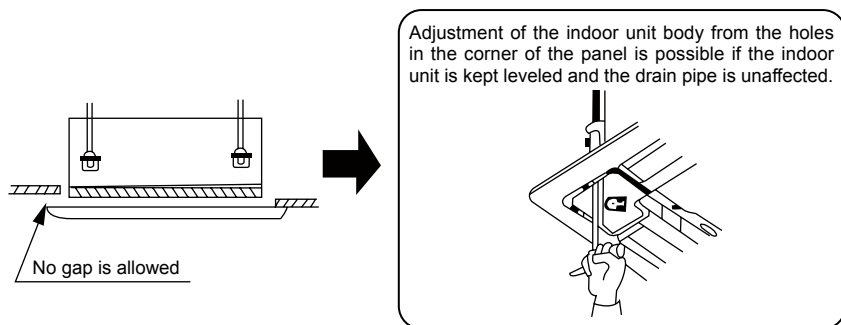

Fig.10.14
- (2). If gap is still left between the ceiling and the panel after screwing the screws, readjust the height of the indoor unit body (Refer to Fig.10.14).